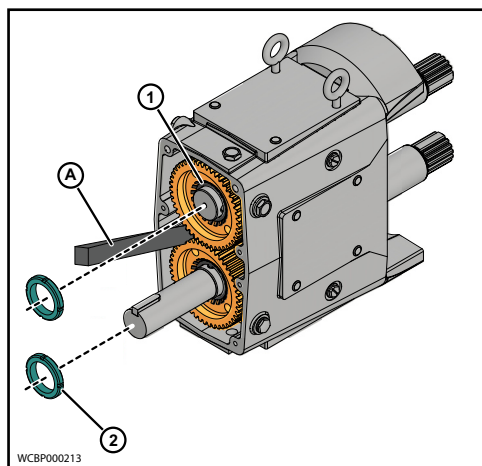

Figure 84 - Block Shaft Rotation
4. Use a wood or nylon block (A) to keep the shafts from turning. If a block is not available, use rags to block the gears, or with one rotor on the shaft, block the rotor with a nylon dowel, as shown in Figure 84.
5. Slide the lock washers (1) onto the shaft. Lubricate the threaded area on the shafts and face of the locknuts (2) with oil or grease, as shown in Figure 84.